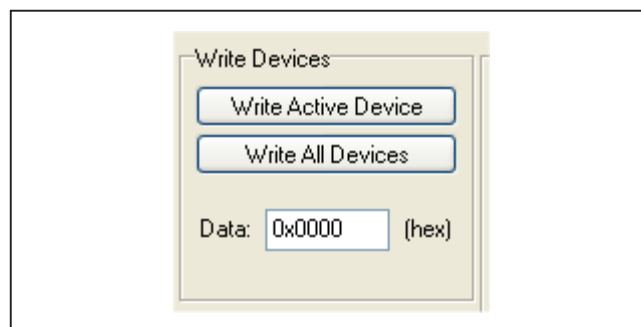

Figure 4. Write Devices Box
3. Enter the hex value (####) into the **Data: 0x** edit box in the **Write Devices** box (Figure 4).